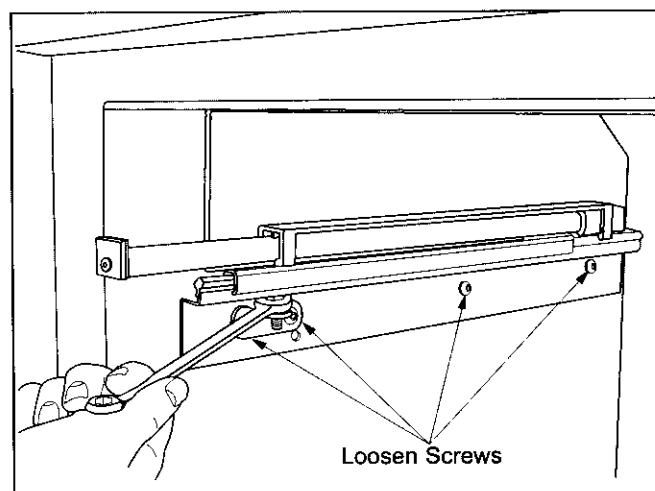

Figure 2-15. Vertical Drawer Adjustment
1. Loosen drawer slide mounting screws. (See Figure 2-15)
2. Using a 7/16" (11 mm) open end wrench, turn adjustment screw until proper alignment is obtained. (See Figure 2-15).